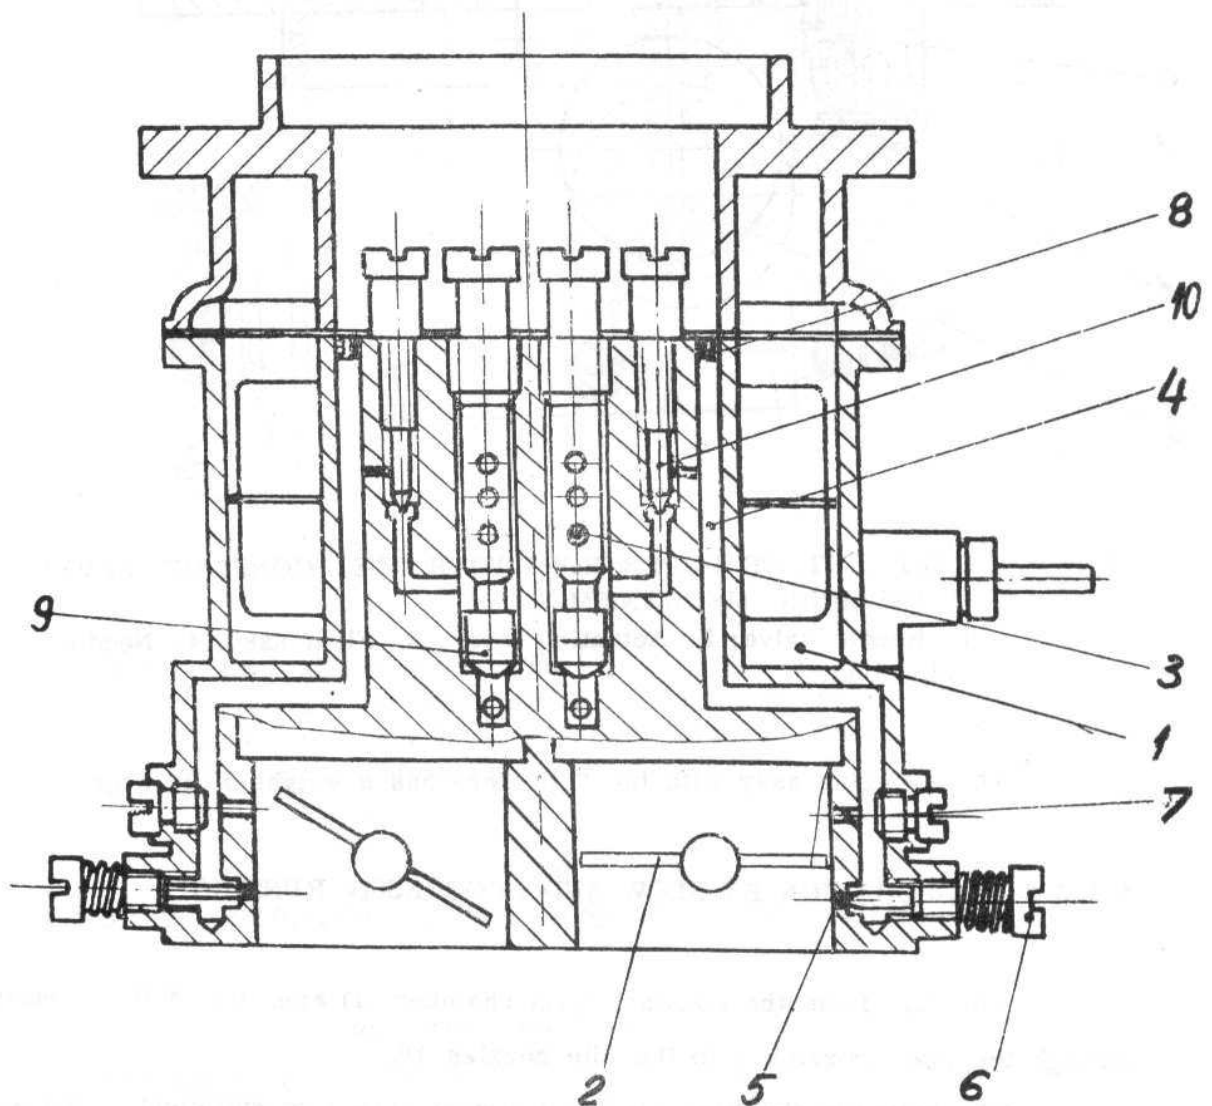

Fig. 4.9. IDLING OPERATION MECHANISM
The fuel from the constant level chamber (1) see. fig. 4.9, passes through the main nozzles 9 to the idle nozzles 10.